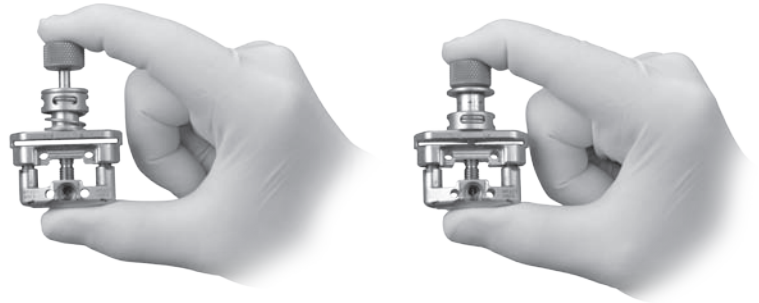
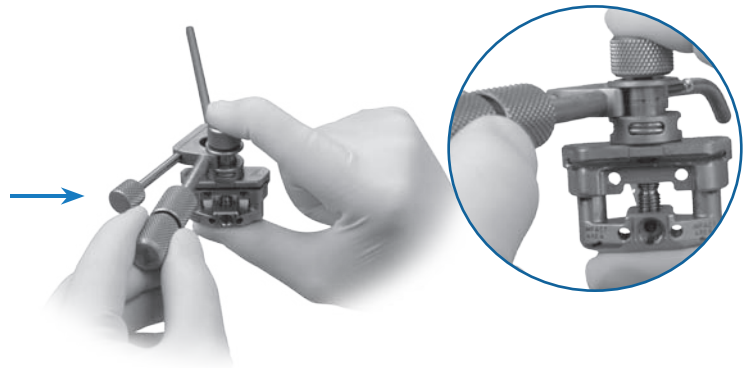

Fig.5
Fig.6
- Push down and hold adjustment knob on the IM Anterior Cut Guide (Fig.5) while sliding the Telescoping Boom onto the IM guide collar (Fig.6). Boom may be inserted from either medial or lateral side.